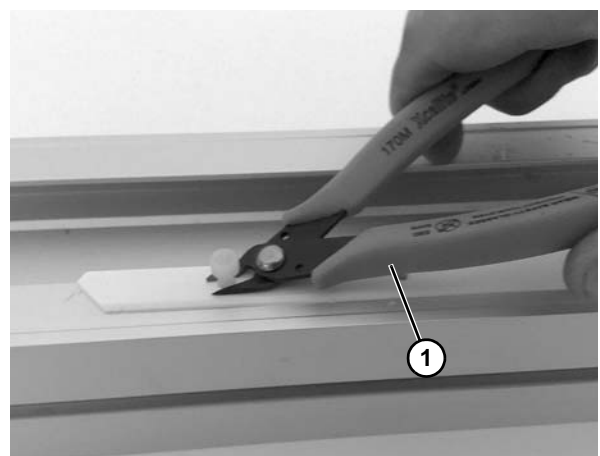

Figure 41
2. Cut off the head of nylon screws by using flush cutting pliers (**Figure 41, item 1**) or soft hammer and knife (**Figure 42, item 1**). Remember, the cut must be made away from the joint, in the direction of chain travel.